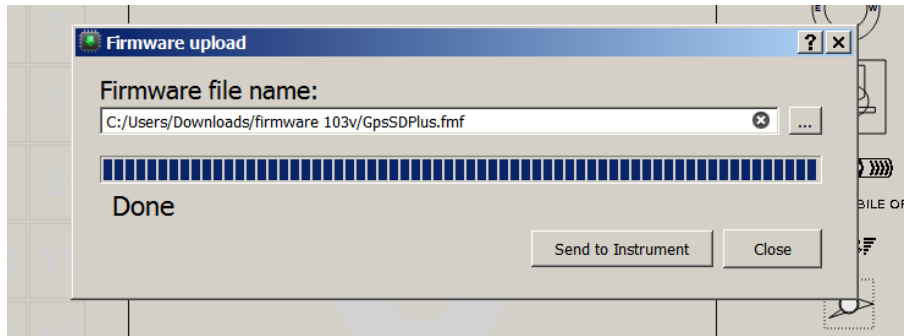

Figure 8.2: Firmware Update Done
6. When the process is finish the application shows a message saying *complete* (see Figure 8.2). Disconnect the USB cable and the GPS SD will start to work.